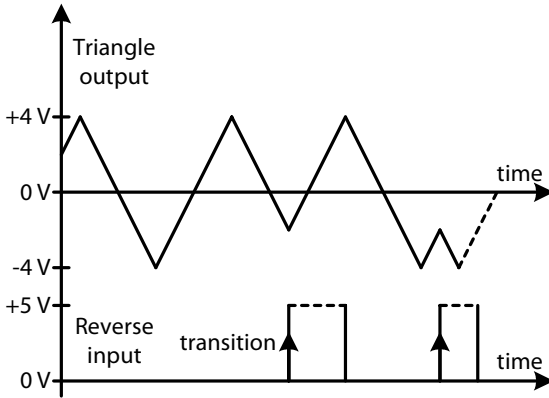

Fig. 8 Reverse function
Finally, we have the reverse function. It's a kind of soft sync where by a 0 V -> +5 V **transition at jack (13)** the triangle direction will be reversed as shown in **Fig. 8**.